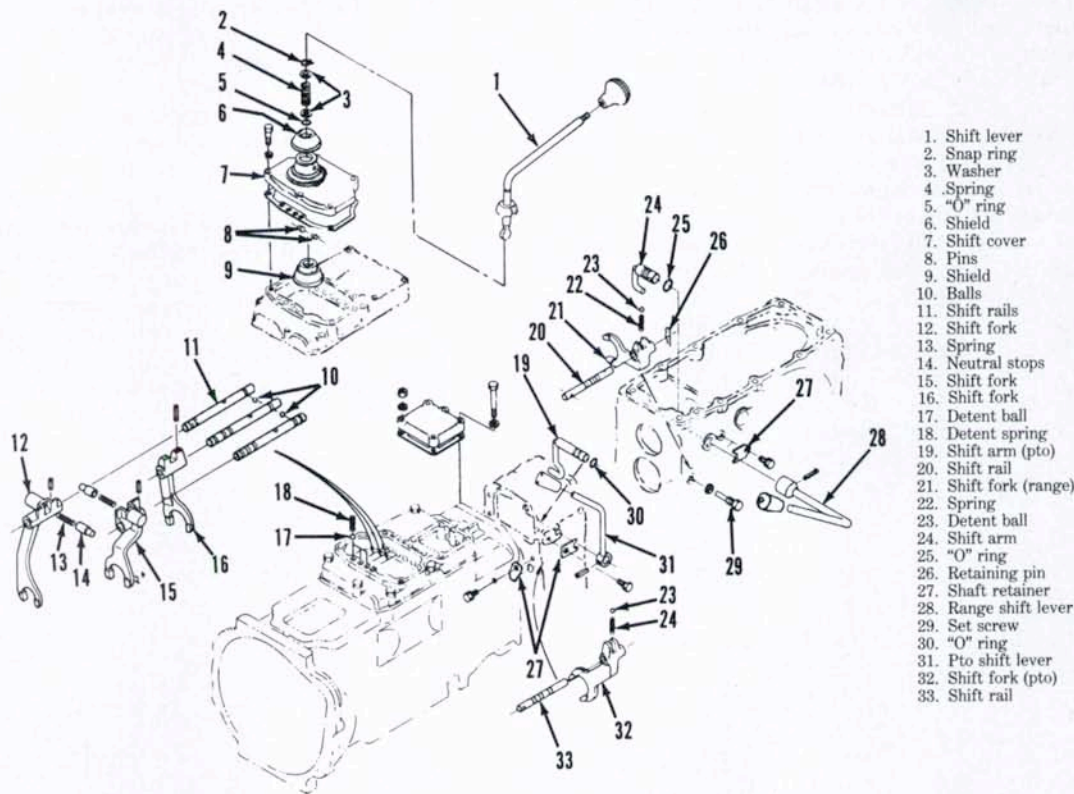

Fig. 98—Exploded view of shifter forks and shafts used on Models L305 and L345.
69. R&R AND OVERHAUL. Refer to Fig. 98 for an exploded view of shift rails, forks and associated parts.